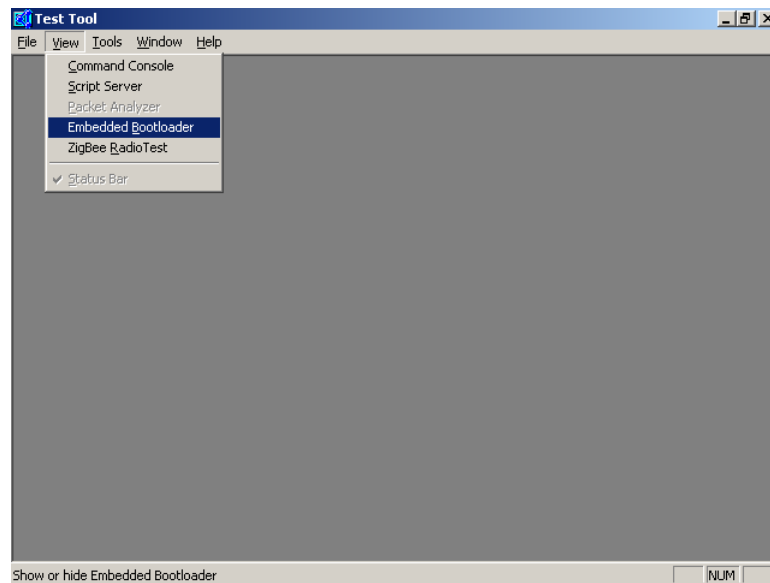

Figure 11 Test Tool Window (Choosing Embedded Bootloader)
8. As shown in Figure 11, from the “Test Tool” window, run the Embedded Bootloader application by selecting “Embedded Bootloader” from the “View” menu.